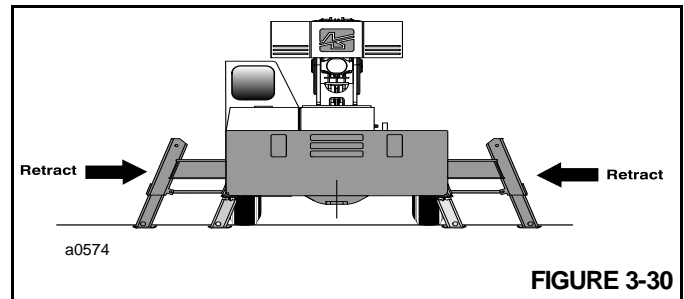

FIGURE 3-30
3. Push the bottom of the Extend/Retract Switch (2).
4. Press the accelerator pedal to increase the engine speed, which will accelerate the inward movement of the outriggers (Figure 3-30). Release the accelerator pedal and the switch when the outriggers are fully retracted.